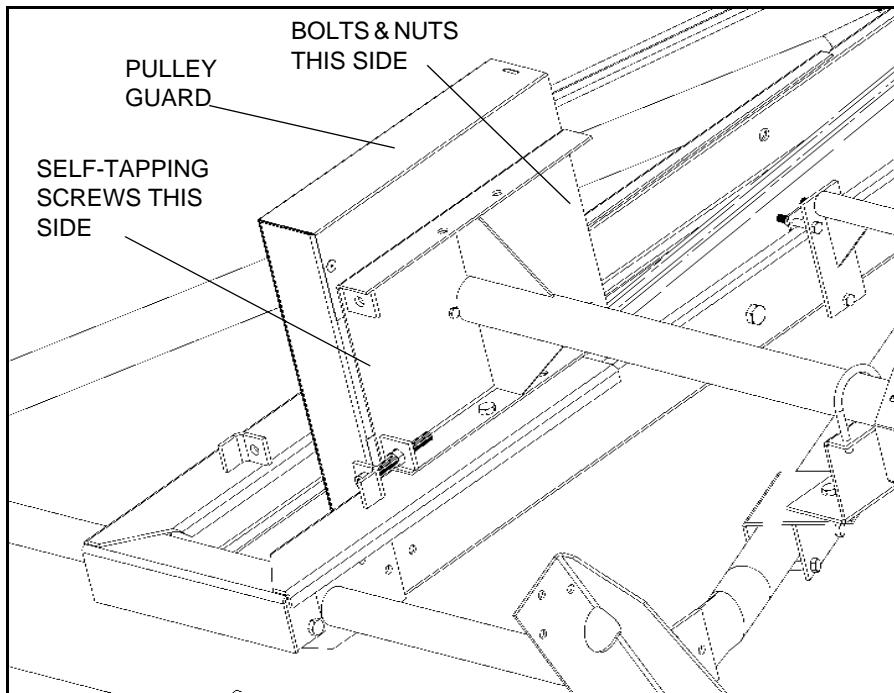

Figure 3.44 Pulley Guard Installation
11. Attach pulley guard to PTO drive assembly with two 1/4" x 1/2" bolts and locknuts on one side and self-tapping screws on the other (Figure 3.44).